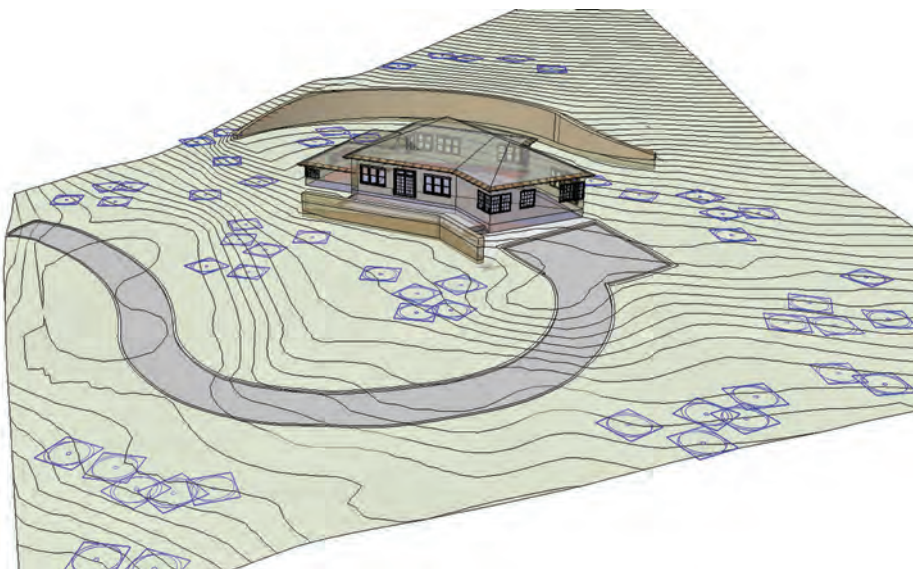

Fig. 15-35: Drop the Tree blocks directly downward onto the terrain.
2. Right-click one of the selected blocks and select DropGC. This will drop the Tree blocks directly downward onto the terrain (Fig. 15-35).